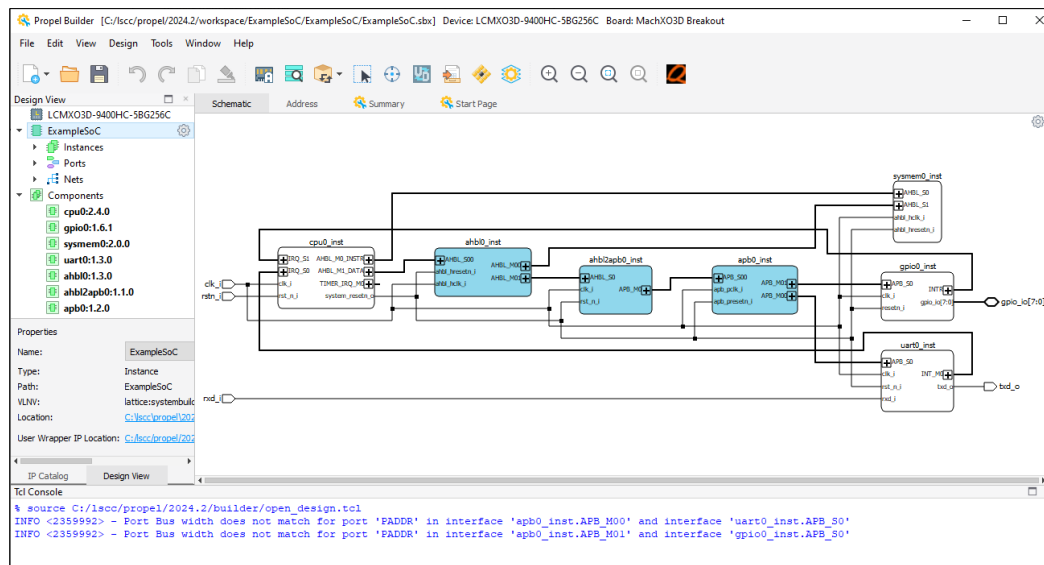

Figure 3.15. Lattice Propel Builder Window 1
The SoC design project is created in workbench, and its design is opened and displayed in Lattice Propel Builder (Figure 3.15).
3. The SoC Design is opened and displayed in Lattice Propel Builder (Figure 3.15).